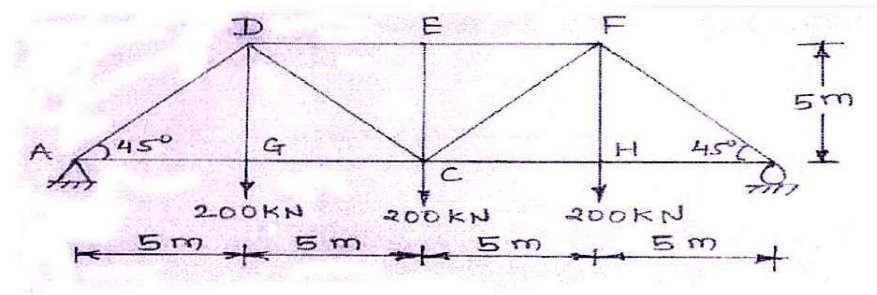

Fig. 6
6. The truss shown in figure 6. Find central deflection. Take